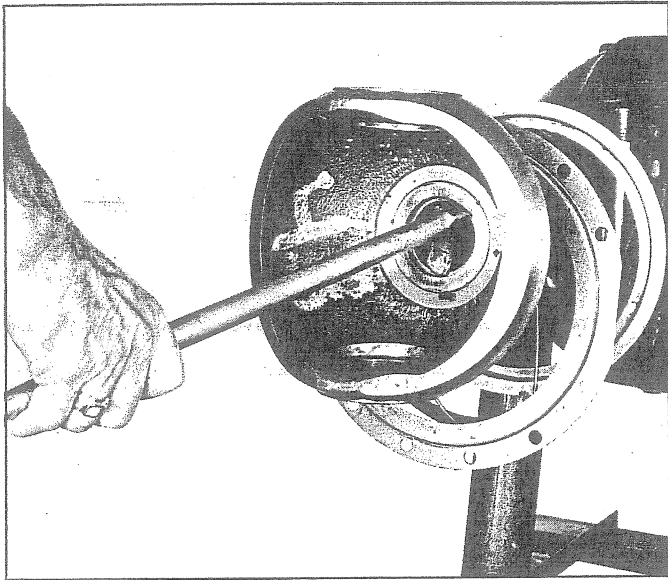

Fig. 16 - Removing Thrust Washer
19. Carefully pry universal joint thrust washer from end of axle housing as shown in Fig. 16.